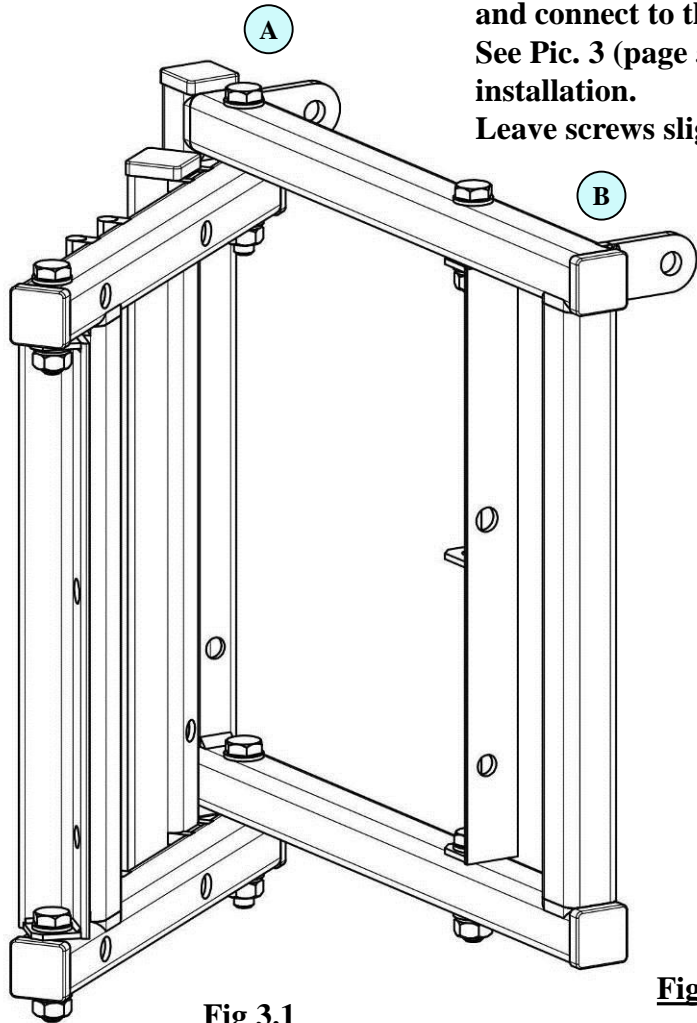

Fig 3.1
3.1. Fig 3.1 shows mount body before assembly. Use points “A” and “B” as left and right sides of the mount.